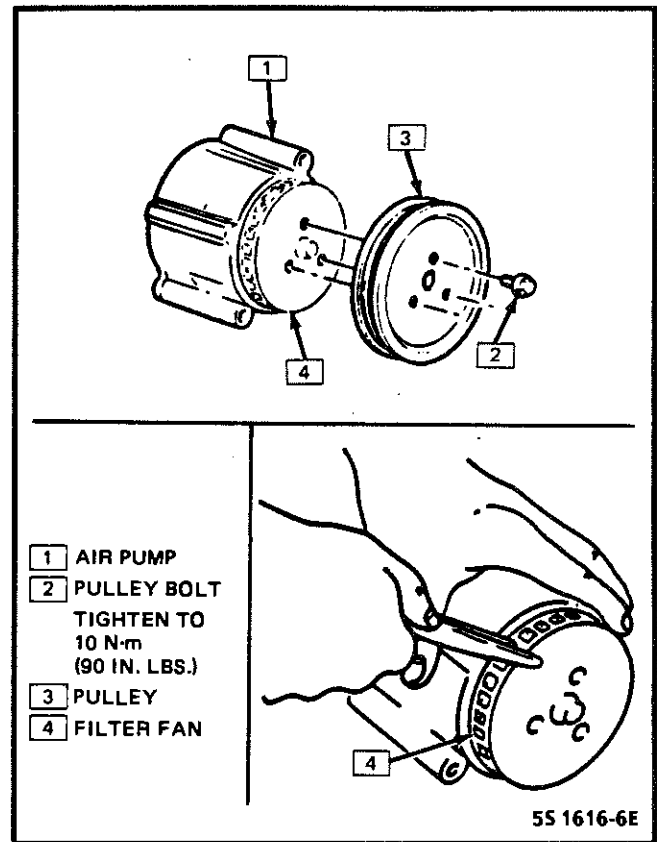

Figure C6-3 - Pump Filter Fan Service
(Figure C6-3)
3. Pump pulley bolts and tighten equal to torque spec. in Figure C6-3. This will compress the centrifugal filter fan onto the pump hole. Do not drive filter fan on with a hammer. A slight amount of interference with the housing bore is normal. After a new filter fan has been installed, it may squeal upon initial operation or until O.D. sealing lip has worn in. This may require a short period of pump operation at various engine speeds.